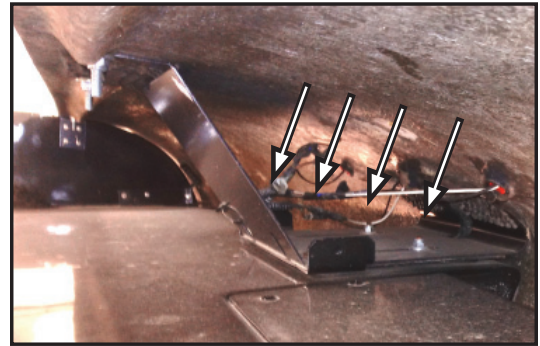

Figure 4
7. While at the center of the air deflector, use a 7/16" socket/ratchet remove the (4) nuts from the top of the mounting bracket located under the air deflector. See Figure 4 for details. Set the nuts and washers aside for reinstallation.